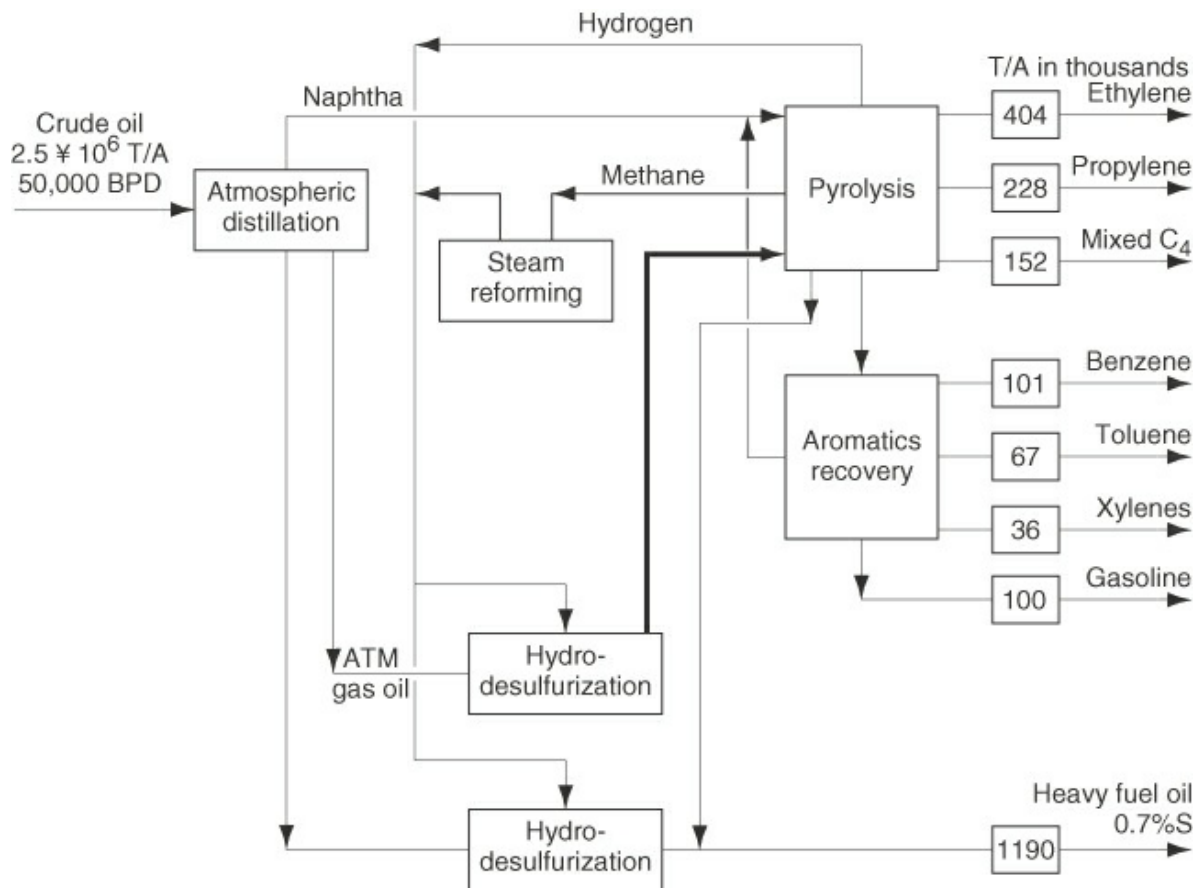

Figure P3.2.15
****3.2.15** Examine the flowsheet in Figure P3.2.15 [adapted from *Hydrocarbon Processing*, 159 (November 1974)] for the atmospheric distillation and pyrolysis of all atmospheric distillates for fuels and petrochemicals. Does the mass in equal the mass out? Give one or two reasons why the mass does or does not balance. Note: T/A is metric tons per year.